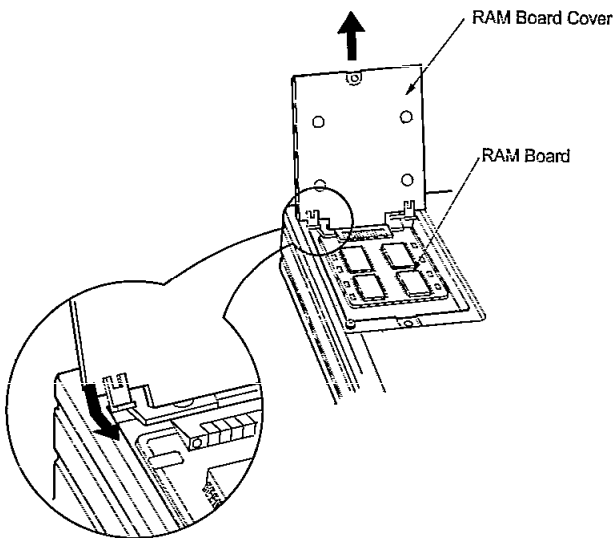

Figure 5
4. With the hooked portion of the removed cover, hook onto the edge of installed RAM board and pull directly upwards. (Refer to Figure 5)